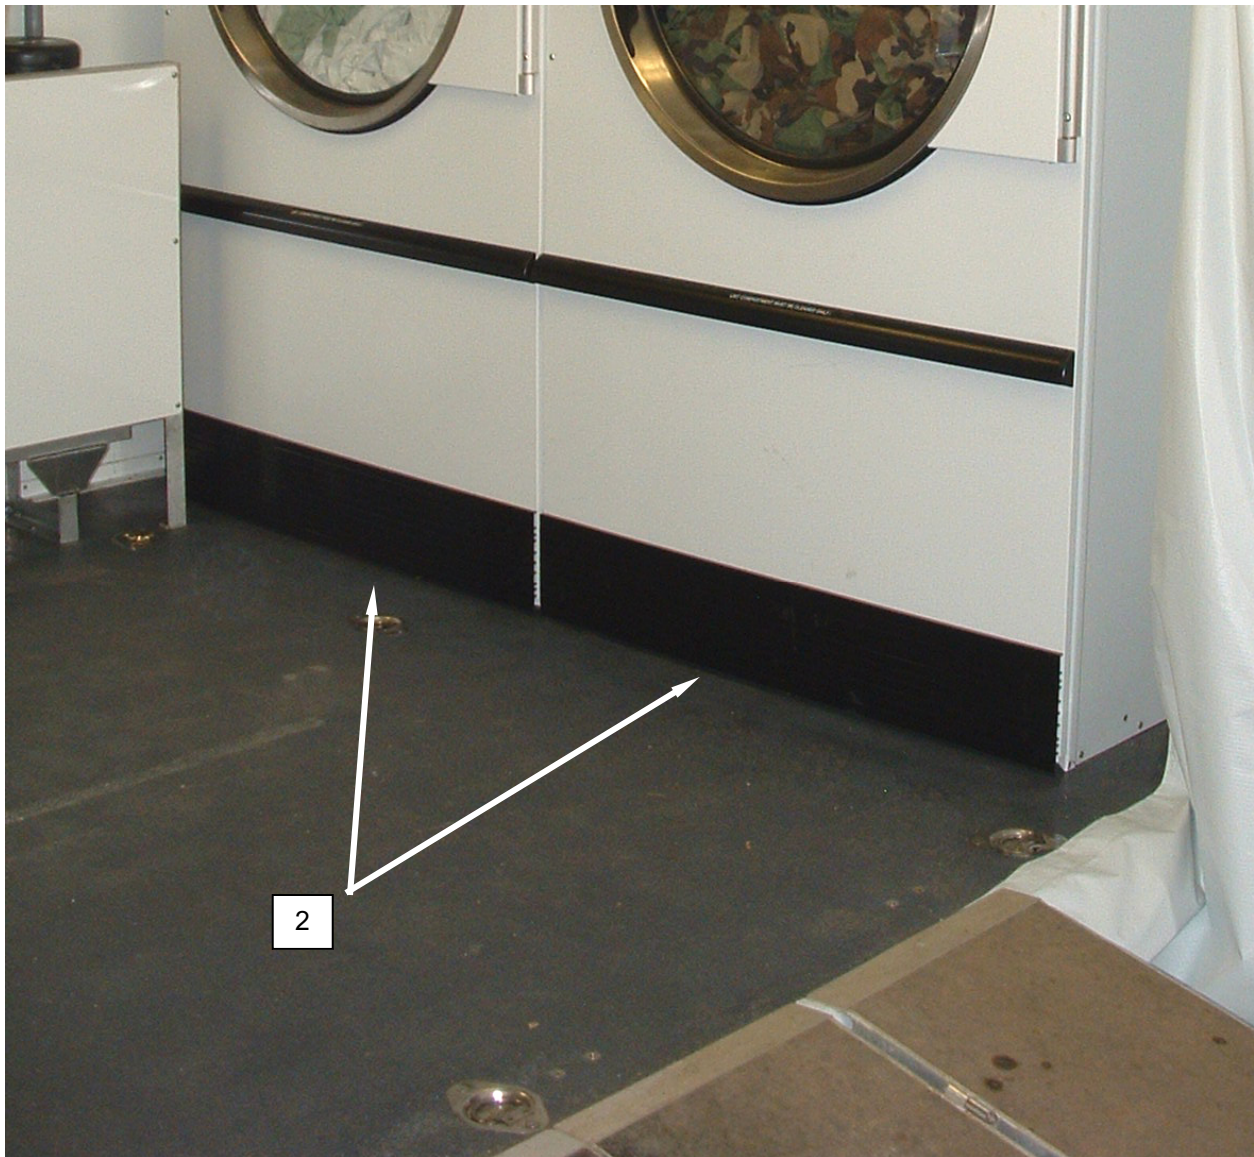

Figure 2. Removing Lint Compartment Doors.
6. Remove dryer lint compartment doors (**Figure 2, Item 2**).